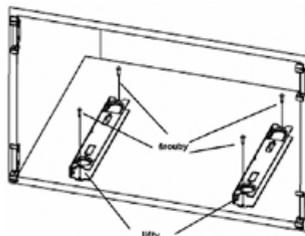

Fig. 3
3. Using the large template, place and screw the strips on the bottom of the box (Fig. 3).